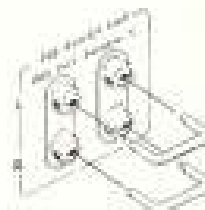

Fig. 30
The preamplifier section of the SX-5590 can be used independently to drive an external power amplifier. This allows comparison listening between the built-in SX-5590 power amplifier and a homebuilt or other separate power amplifier (Fig. 30).
1. Remove both of the plugs bridging the PRE OUT and POWER IN jacks (Fig. 30).